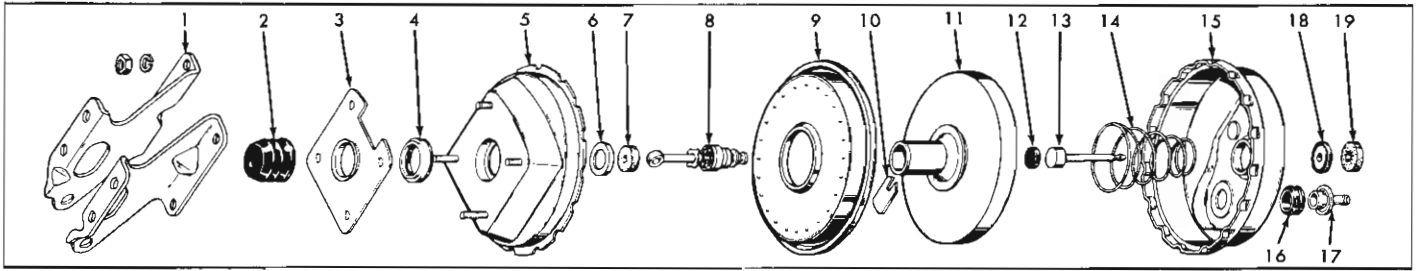

Fig. 5—Component Exploded View
2. Remove main cylinder filter, piston seal assembly and main cylinder push rod from front shell (fig. 5) - pulling the push rod from front shell will also remove the filter and seal assembly.